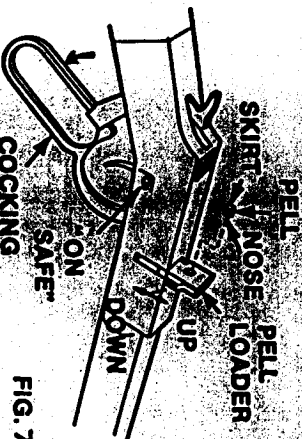

FIG. 7
4. The Pellet Loader is on top of the Receiver and slides up and down. (Fig. 7) Slide this up so a small round hole is above the Receiver.